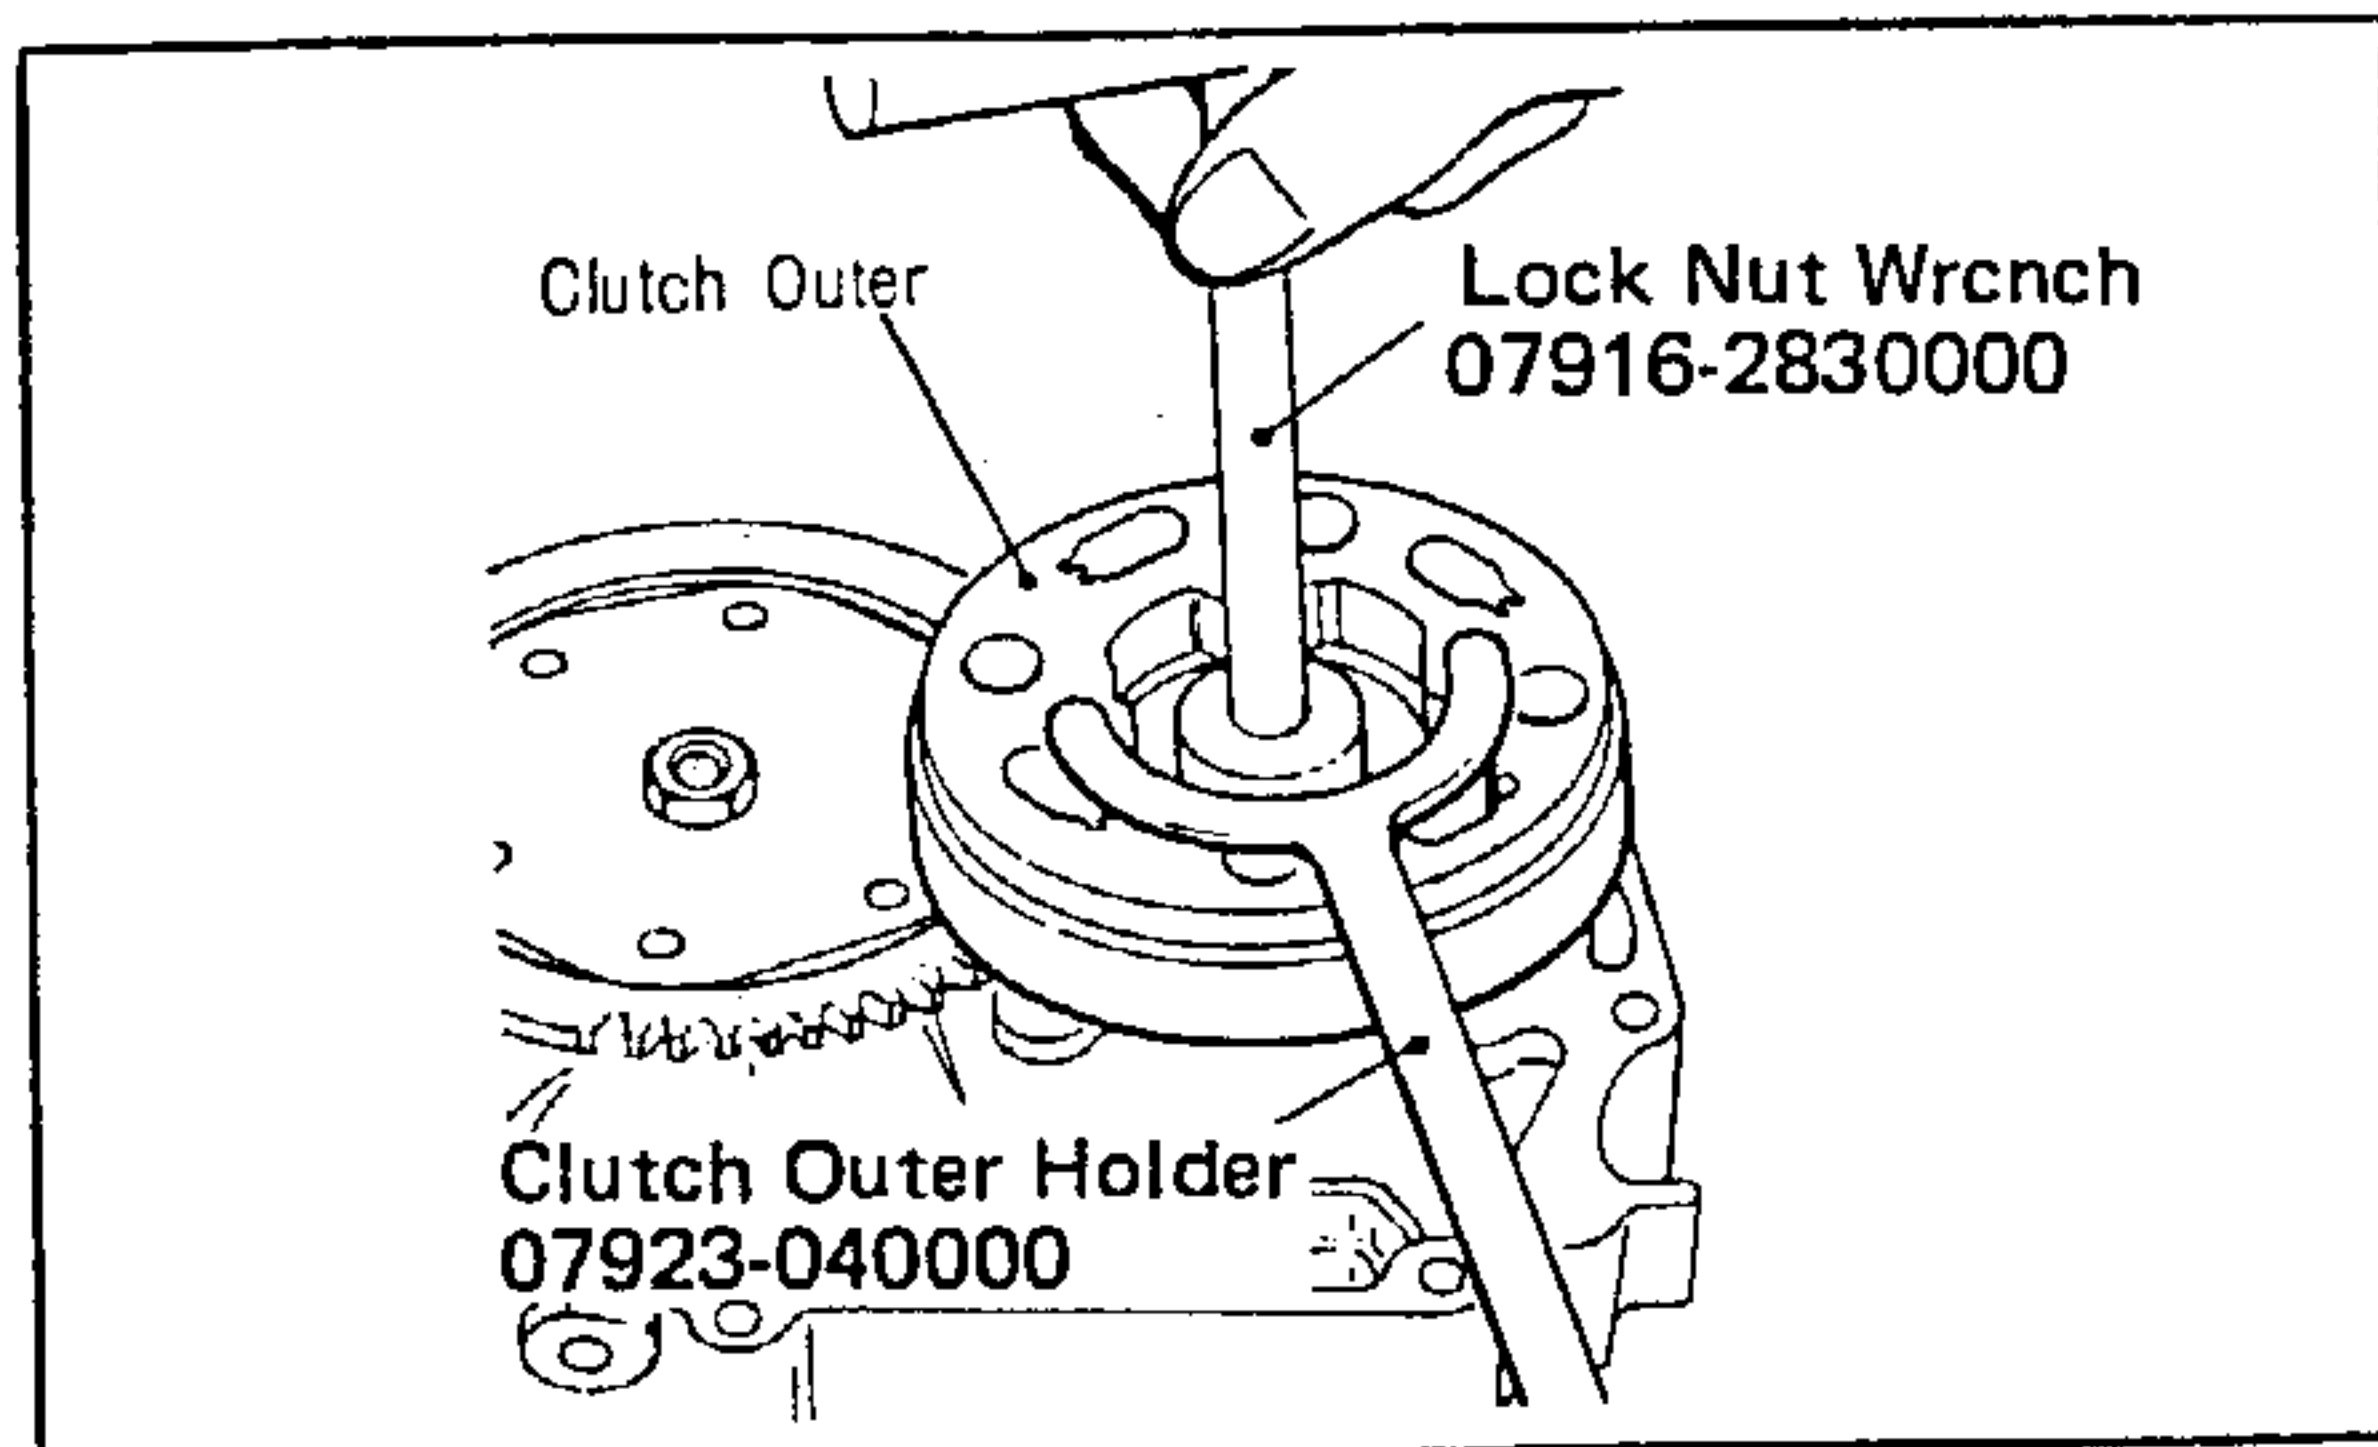

Fig. 37
3. Straighten the tab on the lock washer, and using the clutch outer holder (Tool No. 07923-040000) and lock nut wrench (Tool No. 07916-2830000), loosen the lock nut and remove the clutch assembly (Fig. 37). The clutch is then disassembled.